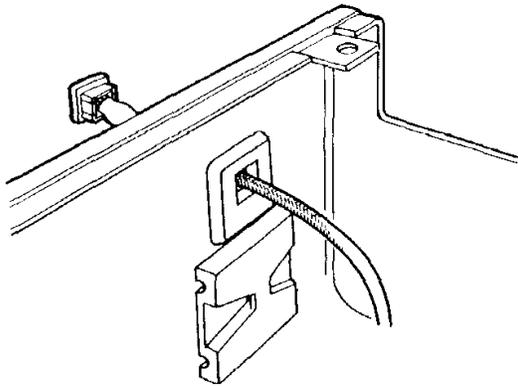

FIGURE 18
38. Place the cable clamp back onto the LED cable connector. Insert the end of the cable through the opening in the cover and reinsert it into the LED holder as shown in Figure 18. Pull the cable back through the opening until the LED fits in the slot. Replace the "ready" label.